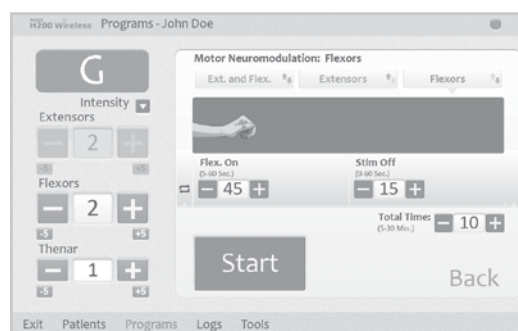

Figure 8-26: Program G, Flexor Window
1. Adjust flexors on time, stimulation off time, and total time. See Figure 8-26.